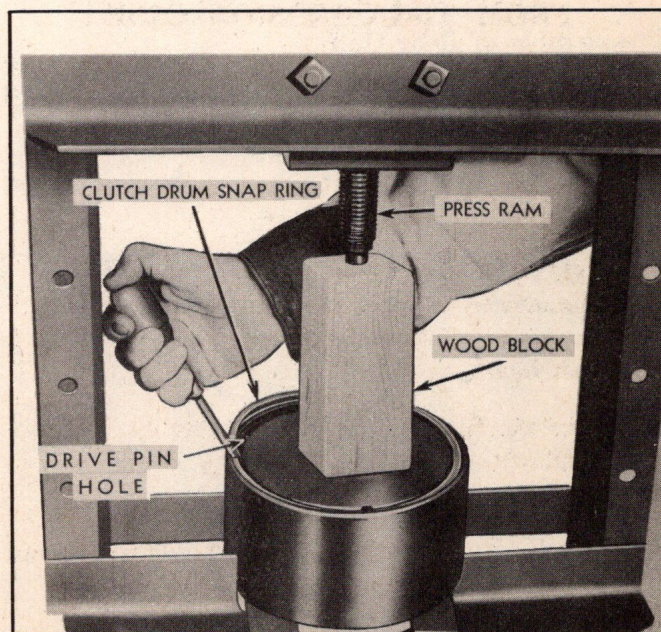

Fig. 135—Removing Clutch Drum Snap Ring
1. Place front unit assembly in press and remove clutch drum snap ring (Fig. 135).